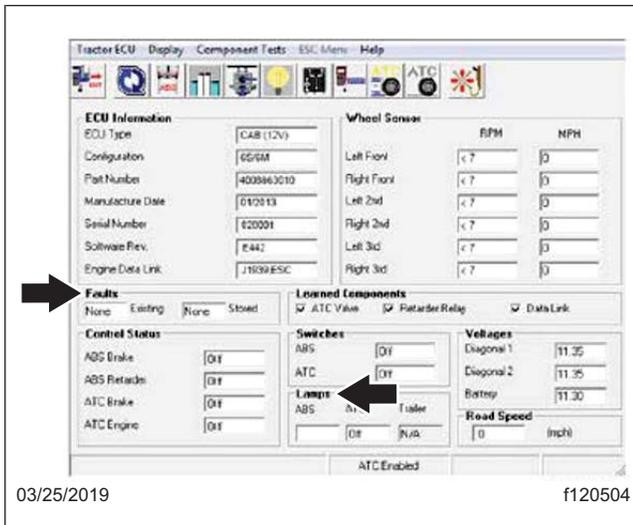
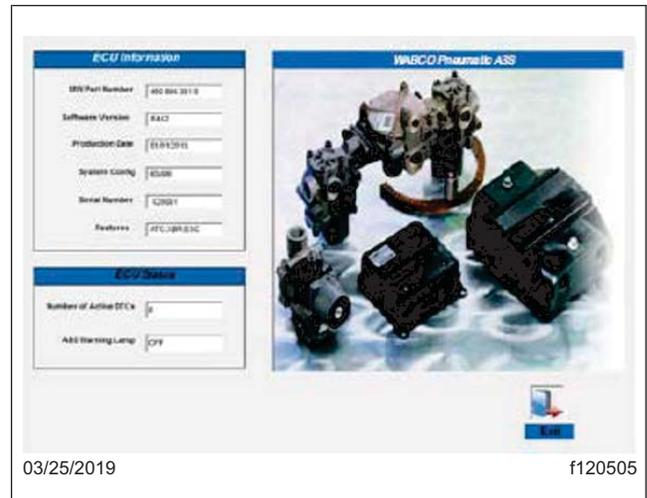

Fig. 14, Checking for Active Faults
Fig. 15, Checking for Active Faults, Screen 2
- Turn the ignition to the ON position. Verify that no active or stored faults are logged in the ECU and that the ABS and ATC/ESC warning lamps are OFF. See Fig. 14 and Fig. 15.